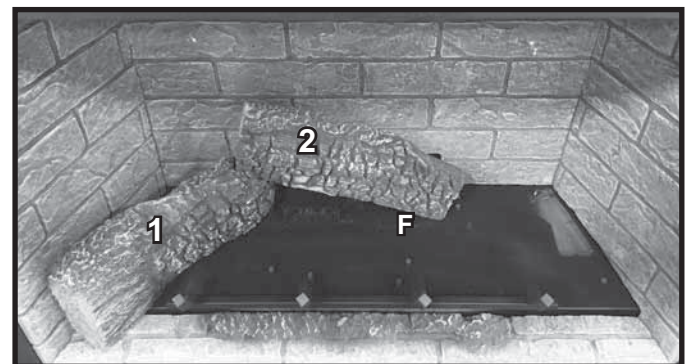

Figure 29. Log #2 Installed
**LOG #2:** Place the bottom right end of log #2 against pin F and the left end of the log on the flat spot of log #1. Push the log back so that it contacts the air scoop. See Figure 29.